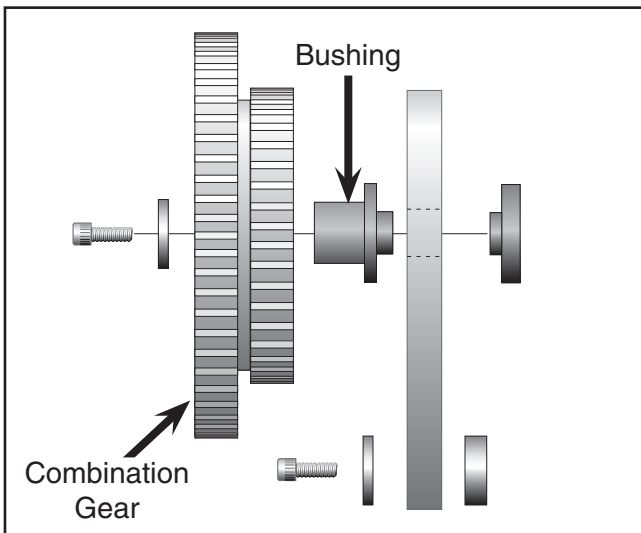

Figure 44. Flats on bushing align with slot.
7. Insert the bushing into the 60/100 tooth combination gear from the side that has 60 teeth. Align the flats of the bushing to the slot in the gear support arm and loosely fasten the assembly to the T-nut using the cap screw. Slide the combination gear along the slot in the support arm until gear C engages with gear D, and tighten the cap screw (see **Figure 44**).